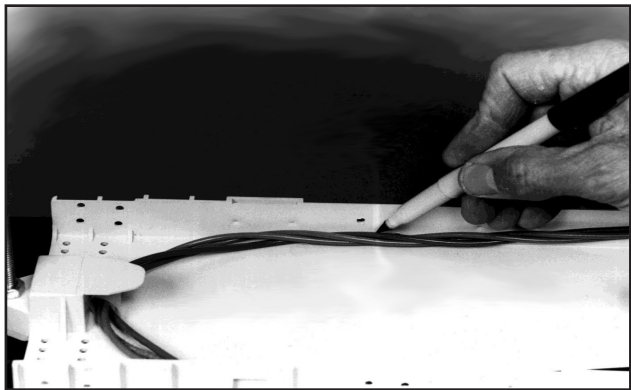

FIGURE 2- MARK THE FIBERS FOR BOTTOM CABLE ENTRY
- 6.05 Mark fibers at the back wall centerline of the Transition Assembly as shown in Figure 2.